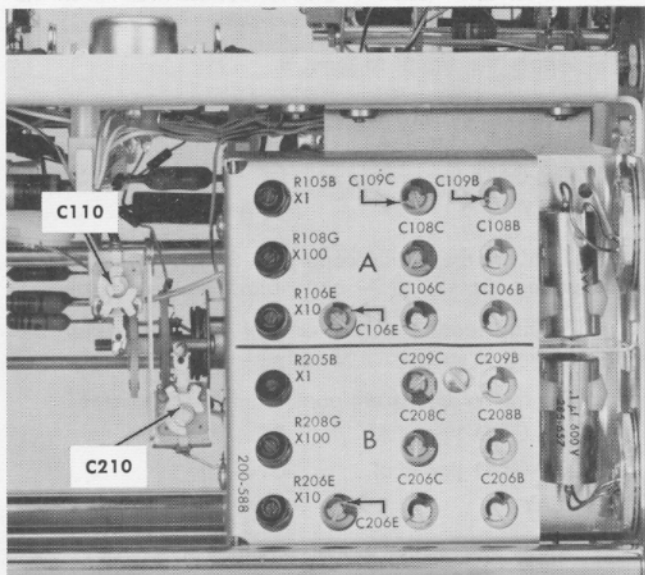
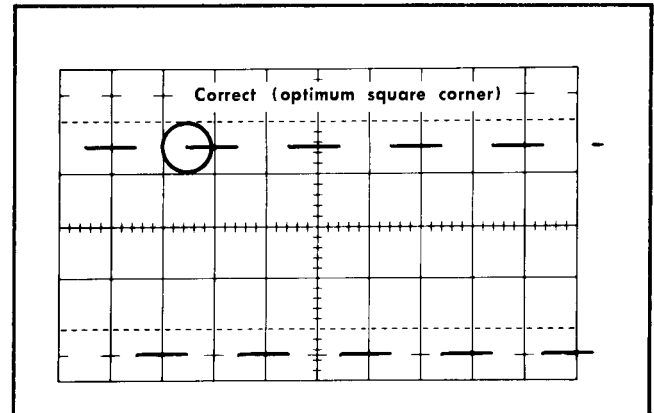

Fig. 5-5. Location of input time constant standardization and attenuator adjustments.
Fig. 5-8. Standardizing the 1X input time constant of input A.
k. Adjust R106E (see Fig. 5-5) to return the trace to graticule center.
f. Adjust R108G (see Fig. 5-5) to position the trace to coincide with graticule center.
g. Adjust R105B (see Fig. 5-5) to obtain a null reading on the non-loading voltmeter.
e. Adjust R206E (see Fig. 5-5) to return the trace to graticule center.
d. Adjust R208G (see Fig. 5-5) to center the trace.
i. Adjust R205B (see Fig. 5-5) to obtain a null reading on the non-loading voltmeter.
- e. Adjust C210 (see Fig. 5-5) for best lower front corner on the square-wave display (see Fig. 5-7a). Figs. 5-7b and 5-7c show effect obtained when C210 is incorrectly adjusted.
- d. Adjust C110 (see Fig. 5-5) for best upper front corner on the square-wave display (see Fig. 5-8).